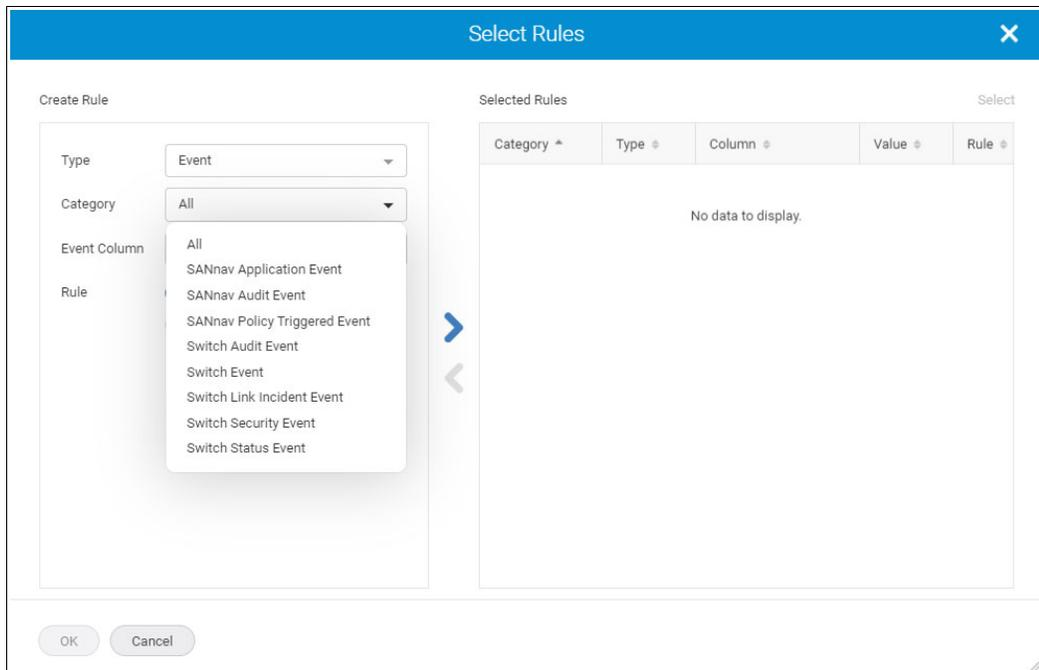

Figure 5-152 Adding email rules
4. Select **Add** from the Rules table. The Select Rules window opens (Figure 5-152).